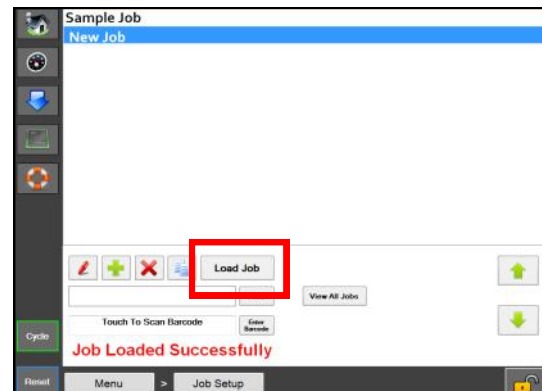

Figure 77D. Load Job Button.
7. Press the Load Job Button. This will send the highlighted job to the PLC and send the label, if applicable, to the printer. **Figure 77D.**